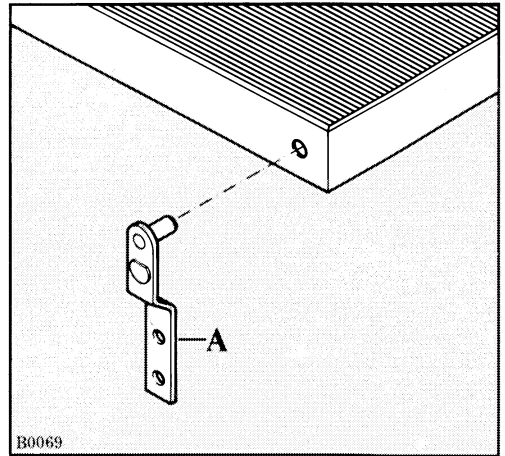

Fig. 3
b) Remove the bottom hinge (A - Fig. 3) and refit it on the opposite side.